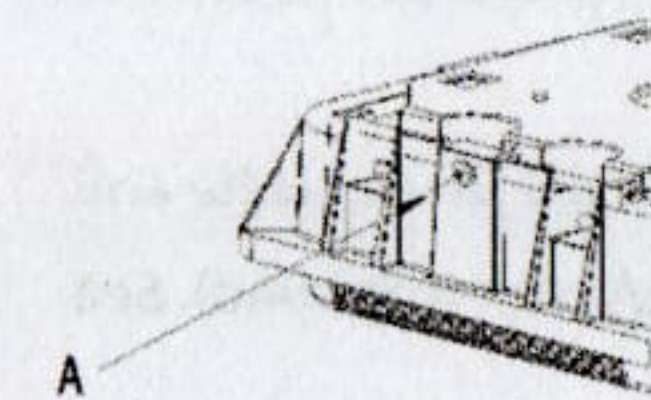

Figure 2
1. Loosen (but do not remove screw A (see Figure 2), which holds the mounting plate in place.
1. Slide the mounting plate toward Screw A, and then remove it from the luminaire body (see Figures 2, 3, & 4).